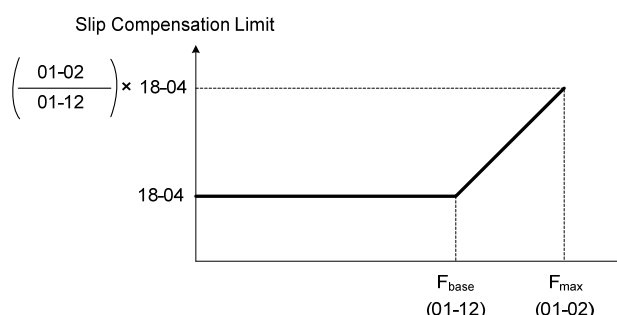

Figure 4.3.100 Slip compensation limit
(2) Slip compensation limit (18-02)
- . Slip compensation limit 18-02 setting, the constant torque and the constant power as shown in Figure 4.3.100